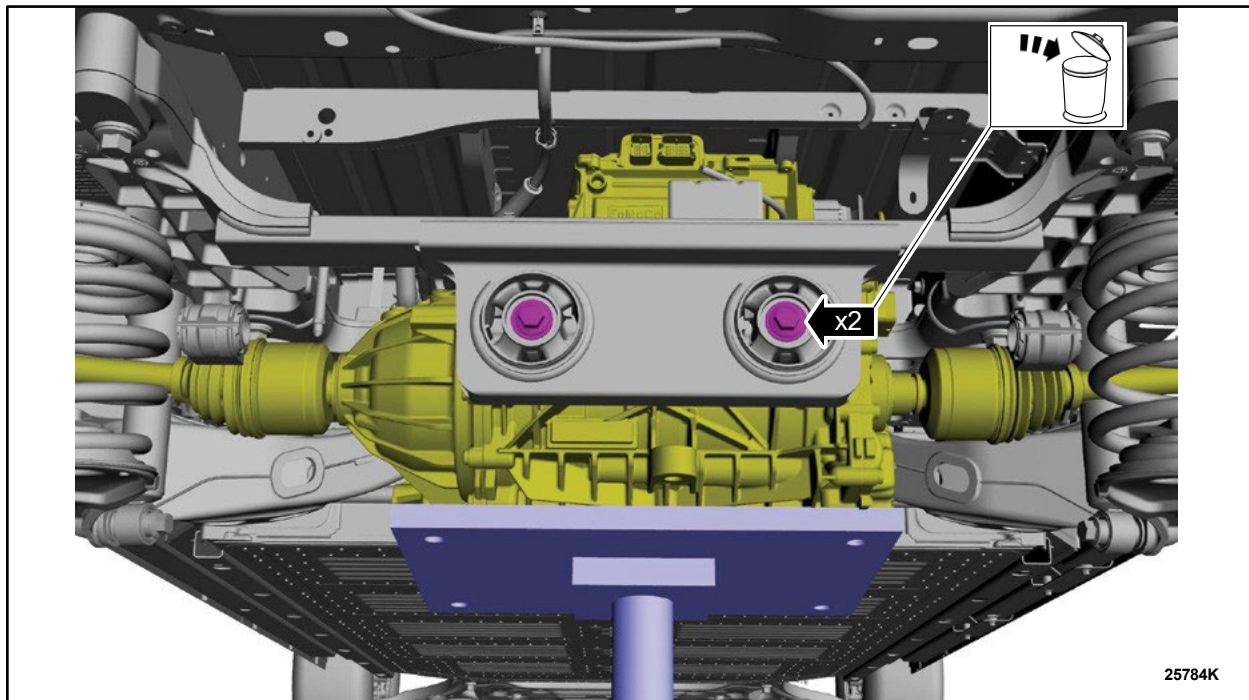

FIGURE 15
19. Remove and discard the rear side bolts from the rear electric drive assembly. See Figure 15.